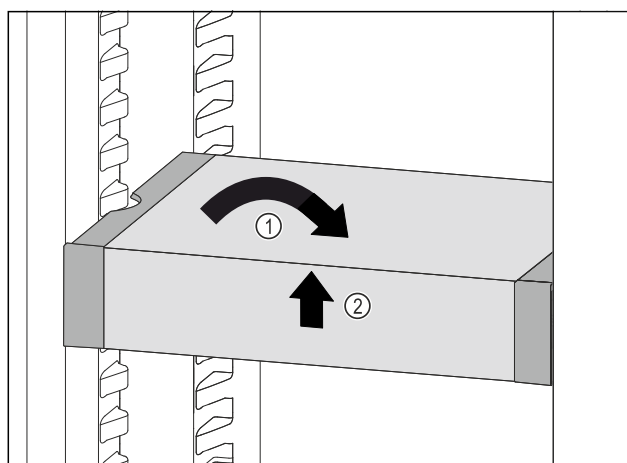

Fig. 47
- Set VarioSafe straight. Fig. 47 (1)
- Lift VarioSafe at the front. Fig. 47 (2)